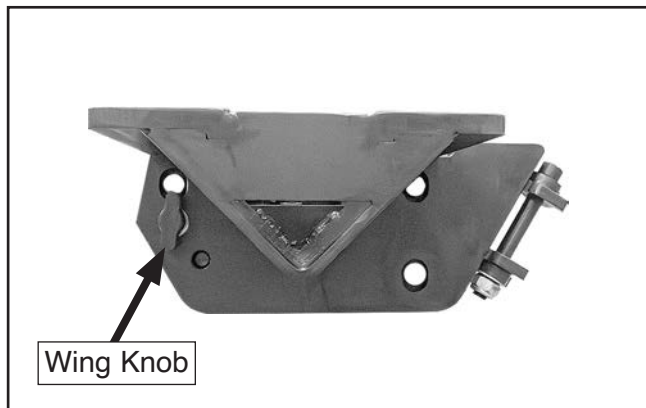

Figure 28. Location of swing-away bed wing knob.
20. Loosen swing-away bed wing knob (see **Figure 28**) to unlock and release swing-away bed.